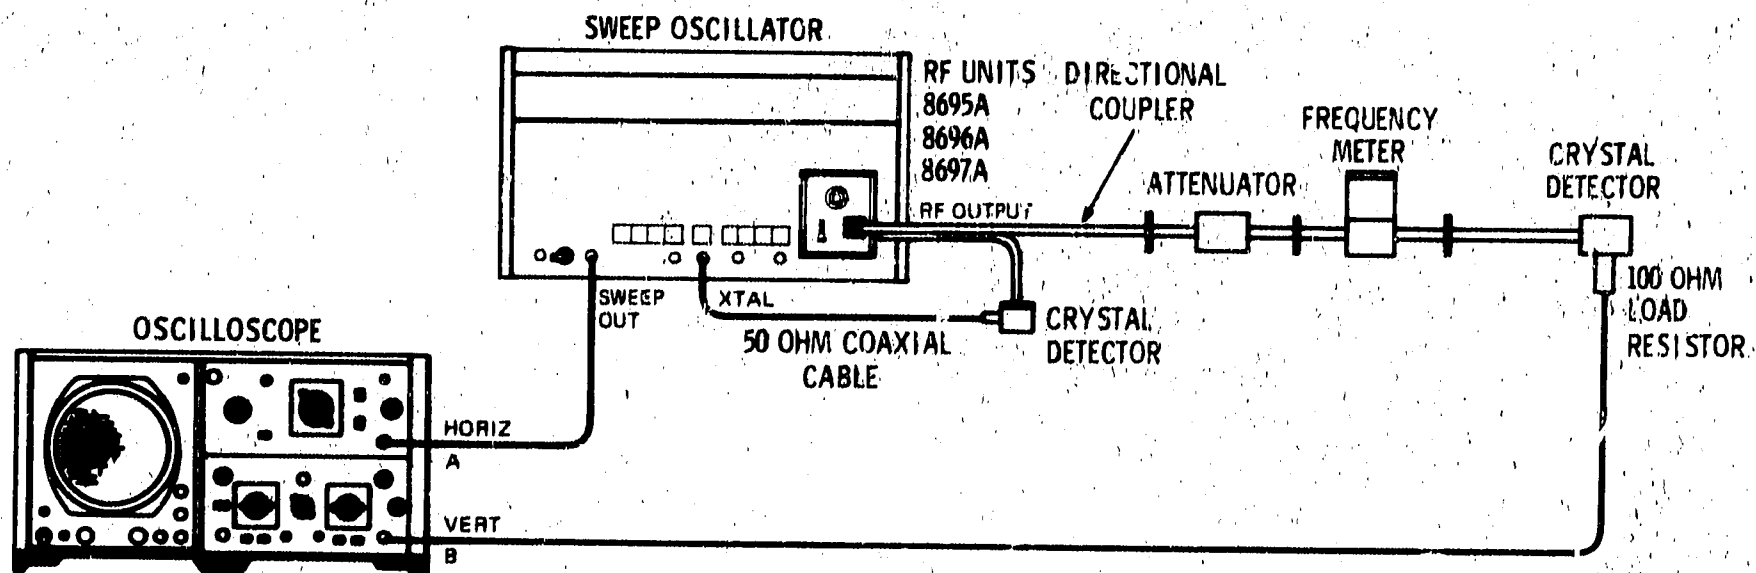

Figure 2-3. Adjustment Setup Number 3
- b. Connect equipment as shown in Figure 2-3.